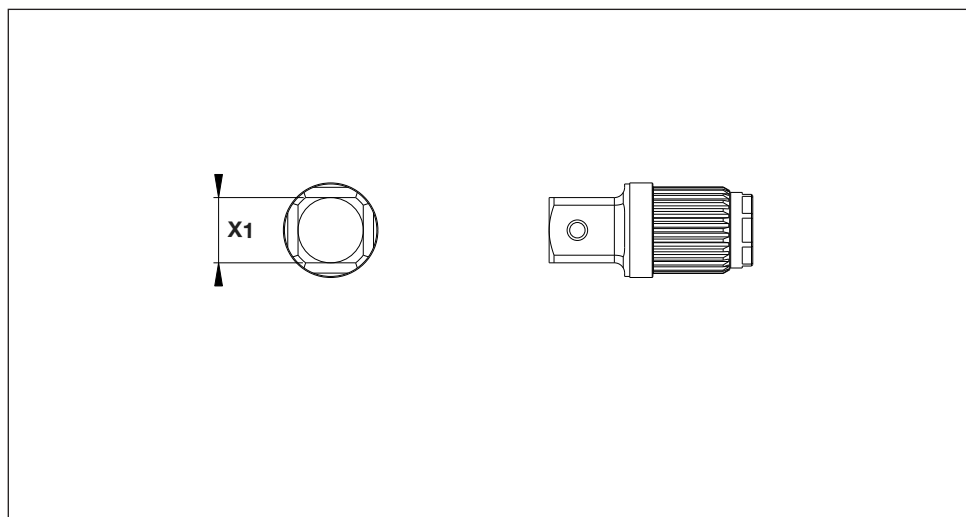

Fig. 32
6.6 Dimensions, SD Series Imperial Square Drives (Fig. 32)